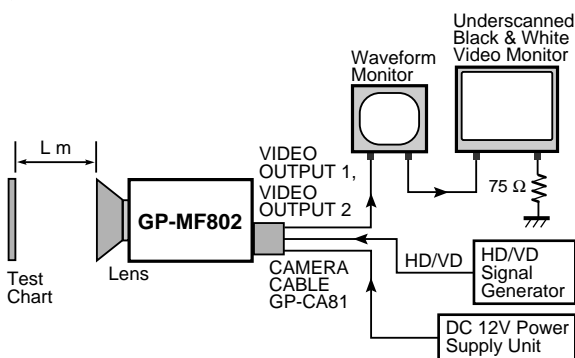

Fig. 4-1
- The Fig. 4-1 shows the connecting diagram for the adjustment procedure.